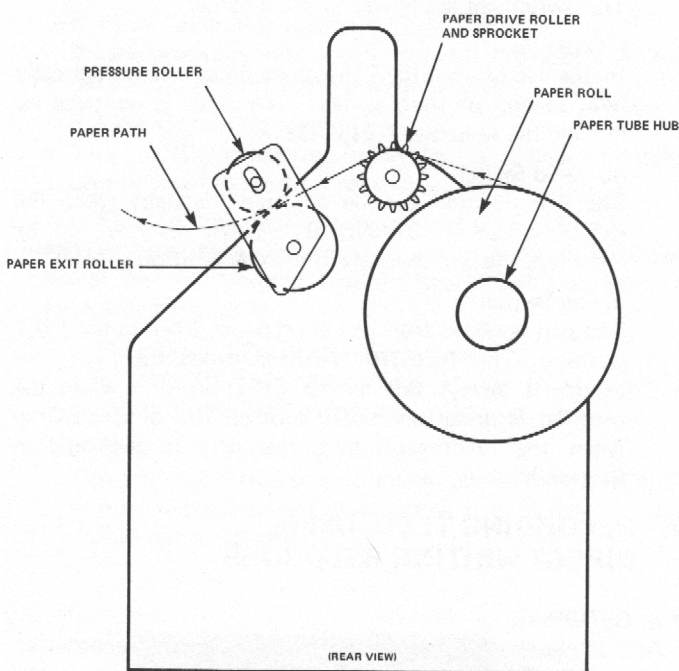

Figure 12 - Loading Paper Into Direct Writing Recorder
A.1. If necessary, load a roll of paper into the recorder as shown in Figure 12. Also, make sure the disposable recording pen is generating a clean, legible trace. Replace the pen as necessary.